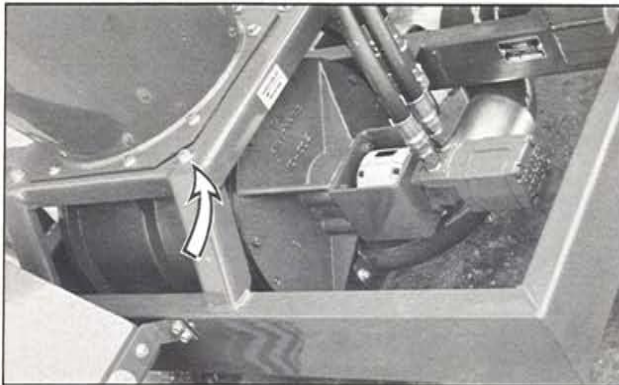

Figure 25 Airlock mounting bolts
3. Remove the receiver tank from the frame by removing the mounting bolts. (see figure 25) Be sure